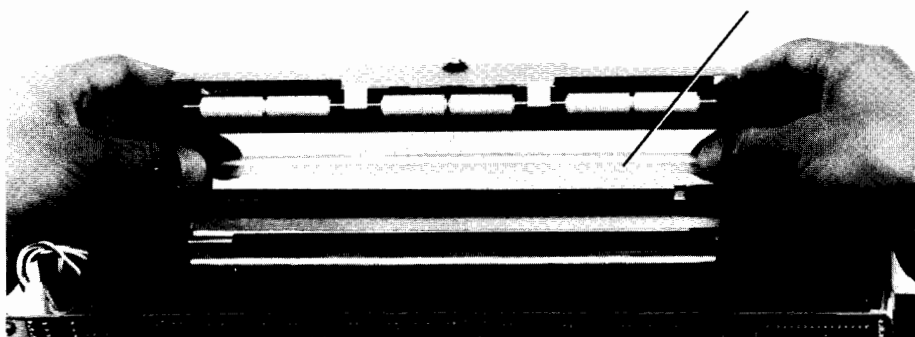

Figure 7-15. Tear Window
2. Remove tear window. (See figure 7-15.)